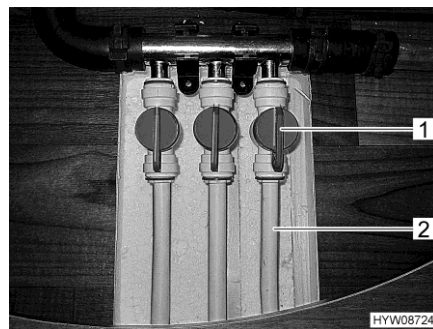

Fig. 133 Inlet valves (floor heating)
- Adjust the handle (Fig. 133,1) of the inlet valve for the chosen heating circuit (Fig. 133,2) so that it is parallel to the heating pipe. Now this floor heating circuit will operate at maximum power.
- Adjust the handle (Fig. 133,1) of the inlet valve of the chosen heating circuit (Fig. 133,2) to any position. This way, the heat output of this circuit can be continuously adjusted.
- Adjust the handle (Fig. 133,1) of the inlet valve of the chosen heating circuit (Fig. 133,2) so that it is perpendicular to the heating pipe. This floor heating circuit is now switched off.